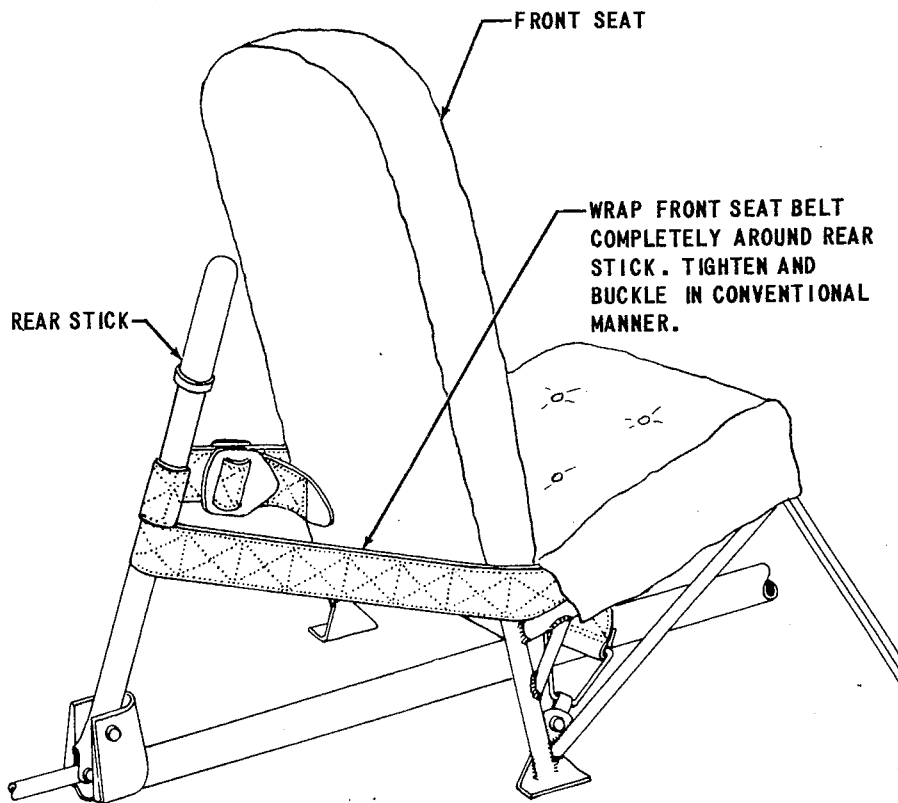

Figure 26—Aileron and Elevator Lock
- (1) Fuel.
- (2) Throttle.
- (3) Ignition.
- (4) Carburetor air heater.
- (5) Cabin heat.
- (6) Communication equipment (L-4A).
- (7) Battery switch (L-4A only)—leave generator switch "ON."
b. Wrap front seat belt completely around rear stick, tighten and buckle in conventional manner to lock ailerons and elevators to prevent wind damage. (See figure 26.)